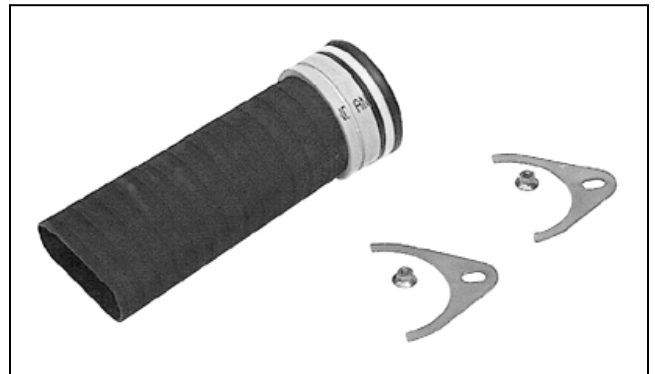

Figure 117. The conduit/tubing bracket assembly kit, shipped with gear.
- (a) Locate the conduit/tubing assembly and the two holding brackets and bolts as shown in Figure 117.